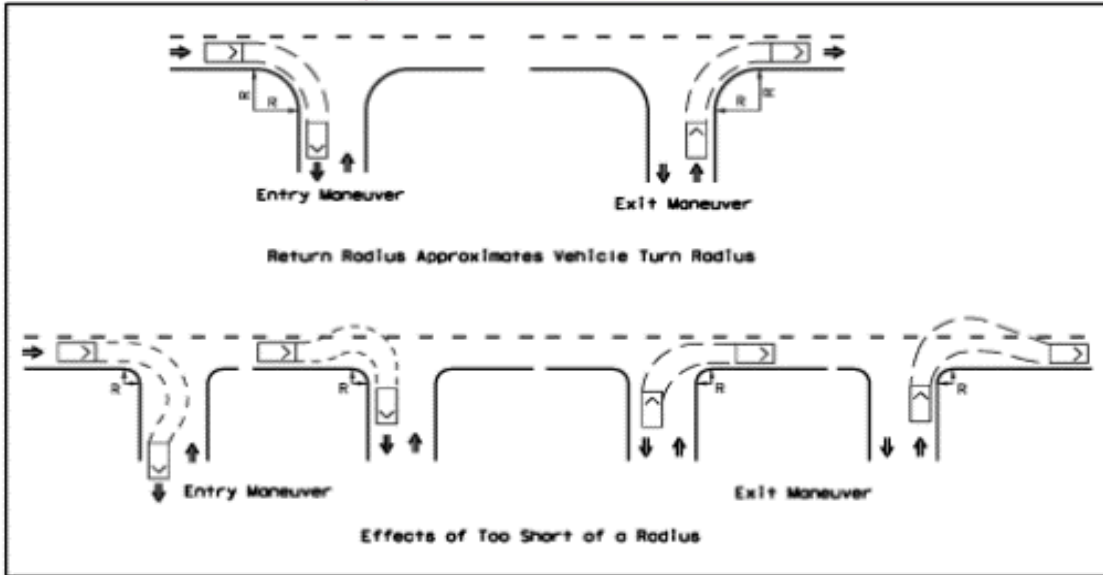

Figure C-1. Effects of Return Radius on the Right-Turn Maneuver
2. Each driveway radius should accommodate the appropriate design vehicle. This will generally be the passenger car (AASHTO P design vehicle) unless the driveway will routinely be expected to handle more than four larger vehicles per hour. Examples of facilities for which a larger design vehicle would normally be appropriate include truck terminals, bus terminals, and connections that serve the loading docks of shopping centers. Figure C-1 illustrates the effects of the radius on the right-turn entry and exit maneuver.